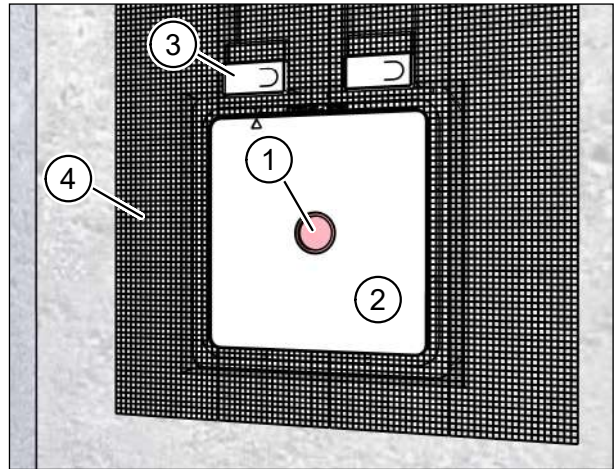

Fig. 24: Plastering the installation kit on the inside
- ▶ Make sure that the signal cover (item 1 in Fig. 24) is seated in the plaster cover (item 2 in Fig. 24).
- ▶ Make sure that the plaster covers (item 3 in Fig. 24) are seated in the 90° brackets.
- ▶ Apply the plaster scrim M-WRG-PG (item 3 in Fig. 24) to the installation kit and the solid wall.